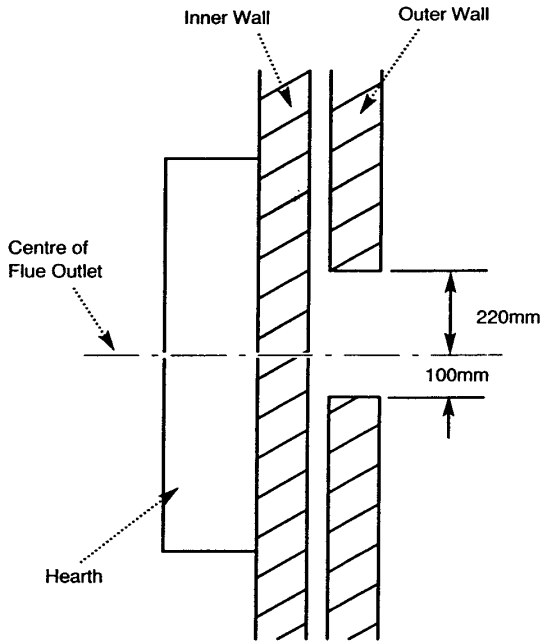

Fig. 13 Plan View
5. From outside consider the position of the pilot hole in relation to the brickwork. The fan box is 3 bricks high and requires a cut-out in the wall 95mm above and 120mm below the pilot hole. This cut-out must extend 100mm to the left and 220mm to the right of the pilot hole (Fig. 13).
16. Taking into consideration the dimensions in fig.13 and 14 on page 12 and the position of the pilot hole, cut a suitable hole for the flue box assembly.